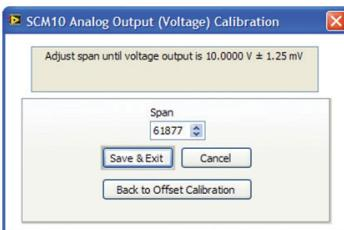

Figure 6.11
3. Adjust the value of the Offset DAC until the reading on the DMM is 0V $\pm 1.25\text{mV}$. Click “Continue to Span Calibration”. This displays a screen similar to Figure 6.11.